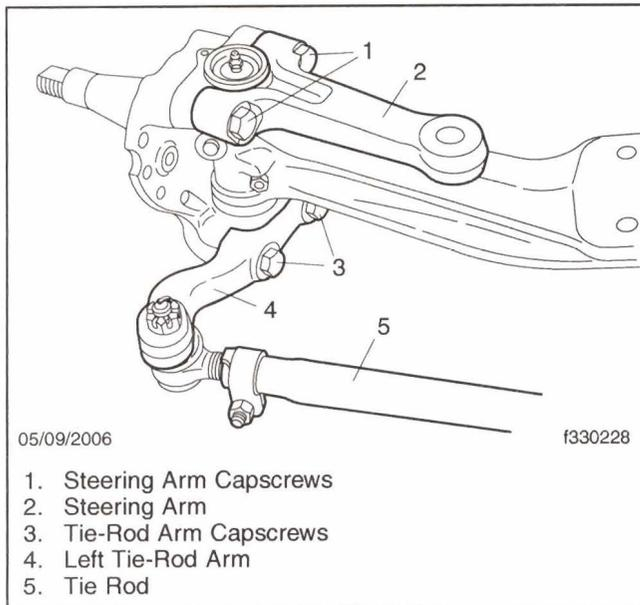
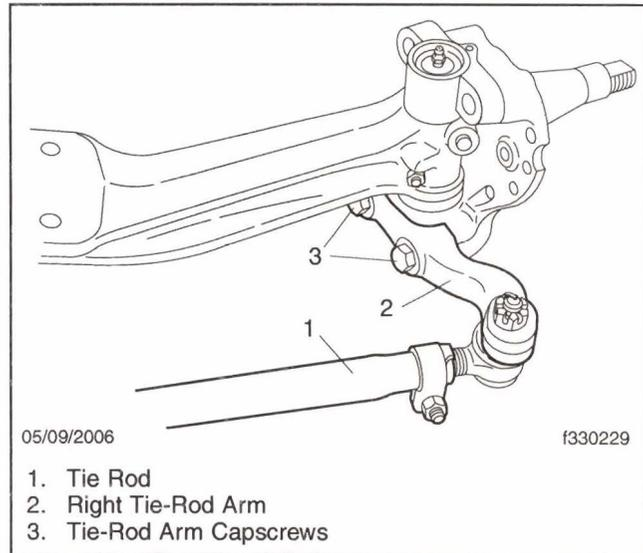

Fig. 2, Left Side of Axle
Fig. 3, Right Side of Axle
21. For Vehicles in FL467B-F, when installing a 12,000-pound axle, remove the steering arm and the tie-rod arms from the old axle. Keep the tie rod connected to the tie-rod arms. Save the tie-rod arms and the steering arm, but discard the steering-arm capscrews and tie-rod arm capscrews. See Fig. 2 and Fig. 3.